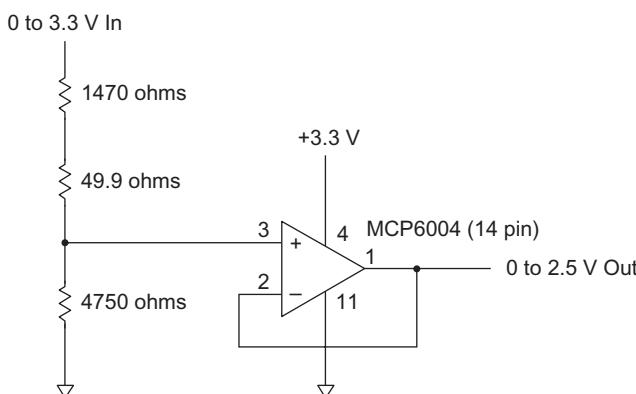

FIGURE 5.9 This circuit uses a voltage divider to scale a 0-to-3.3-volt signal to a 0-to-2.5-volt output. An op-amp buffer provides the output signal.
1. Use precision resistors to create a voltage divider that scales the filtered PWM output to the same range provided by the ADC at the transmitting XBee module. Then use an operational-amplifier (op amp) follower circuit as a high-impedance-input, low-impedance-output buffer. The simple circuit shown in Figure 5.9 uses two resistors to produce a 0-to-2.5-volt output from a 0-to-3.3-volt input, assuming a 2.5-volt VREF input at the XMTR module. The Microchip Technology MCP6004 op amp serves as the buffer. I wanted a maximum of 2.5 volts at the + input to the op amp and chose the 4750-ohm resistor as a starting value. Next I used Ohm's law to calculate the current through the 4750-ohm resistor for a 2.5-volt signal: